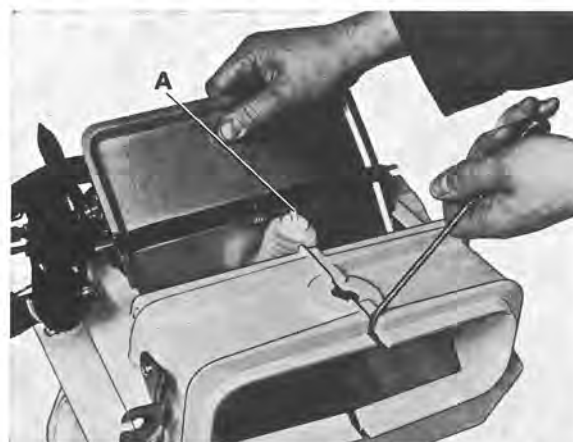

Fig. 8-61. Installing air intake cover with vacuum motor. Vacuum motor hose connection (A) should point to cover shaft.
7. Place the air shutter with vacuum motor and spring in position on the central unit (Fig. 8-61).